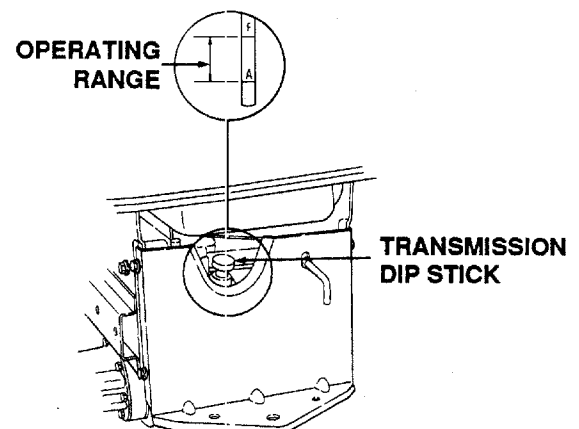

Figure 21
Check the oil level of the transmission case before each use to see that it is filled to the correct level. Before checking the transmission oil level, clean the area around the oil fill plug/dipstick to prevent debris from entering the transmission case. Always keep the oil level between the "FULL" and the "ADD" marks on the dipstick (See Figure 21). When checking the oil level, the dipstick must be withdrawn and wiped clean, then inserted all the way before being withdrawn for a true reading.
3. Remove the oil fill plug/dipstick from the oil fill port and SLOWLY pour oil into the oil fill port. Fill the transmission case until the oil level reaches the "FULL" mark on the dipstick (Refer to Figure 21).
6. Remove the oil fill plug/dipstick from the oil fill port and SLOWLY pour oil into the oil fill port. Fill the transmission case until the oil level reaches the "FULL" mark on the dipstick (Refer to Figure 21).